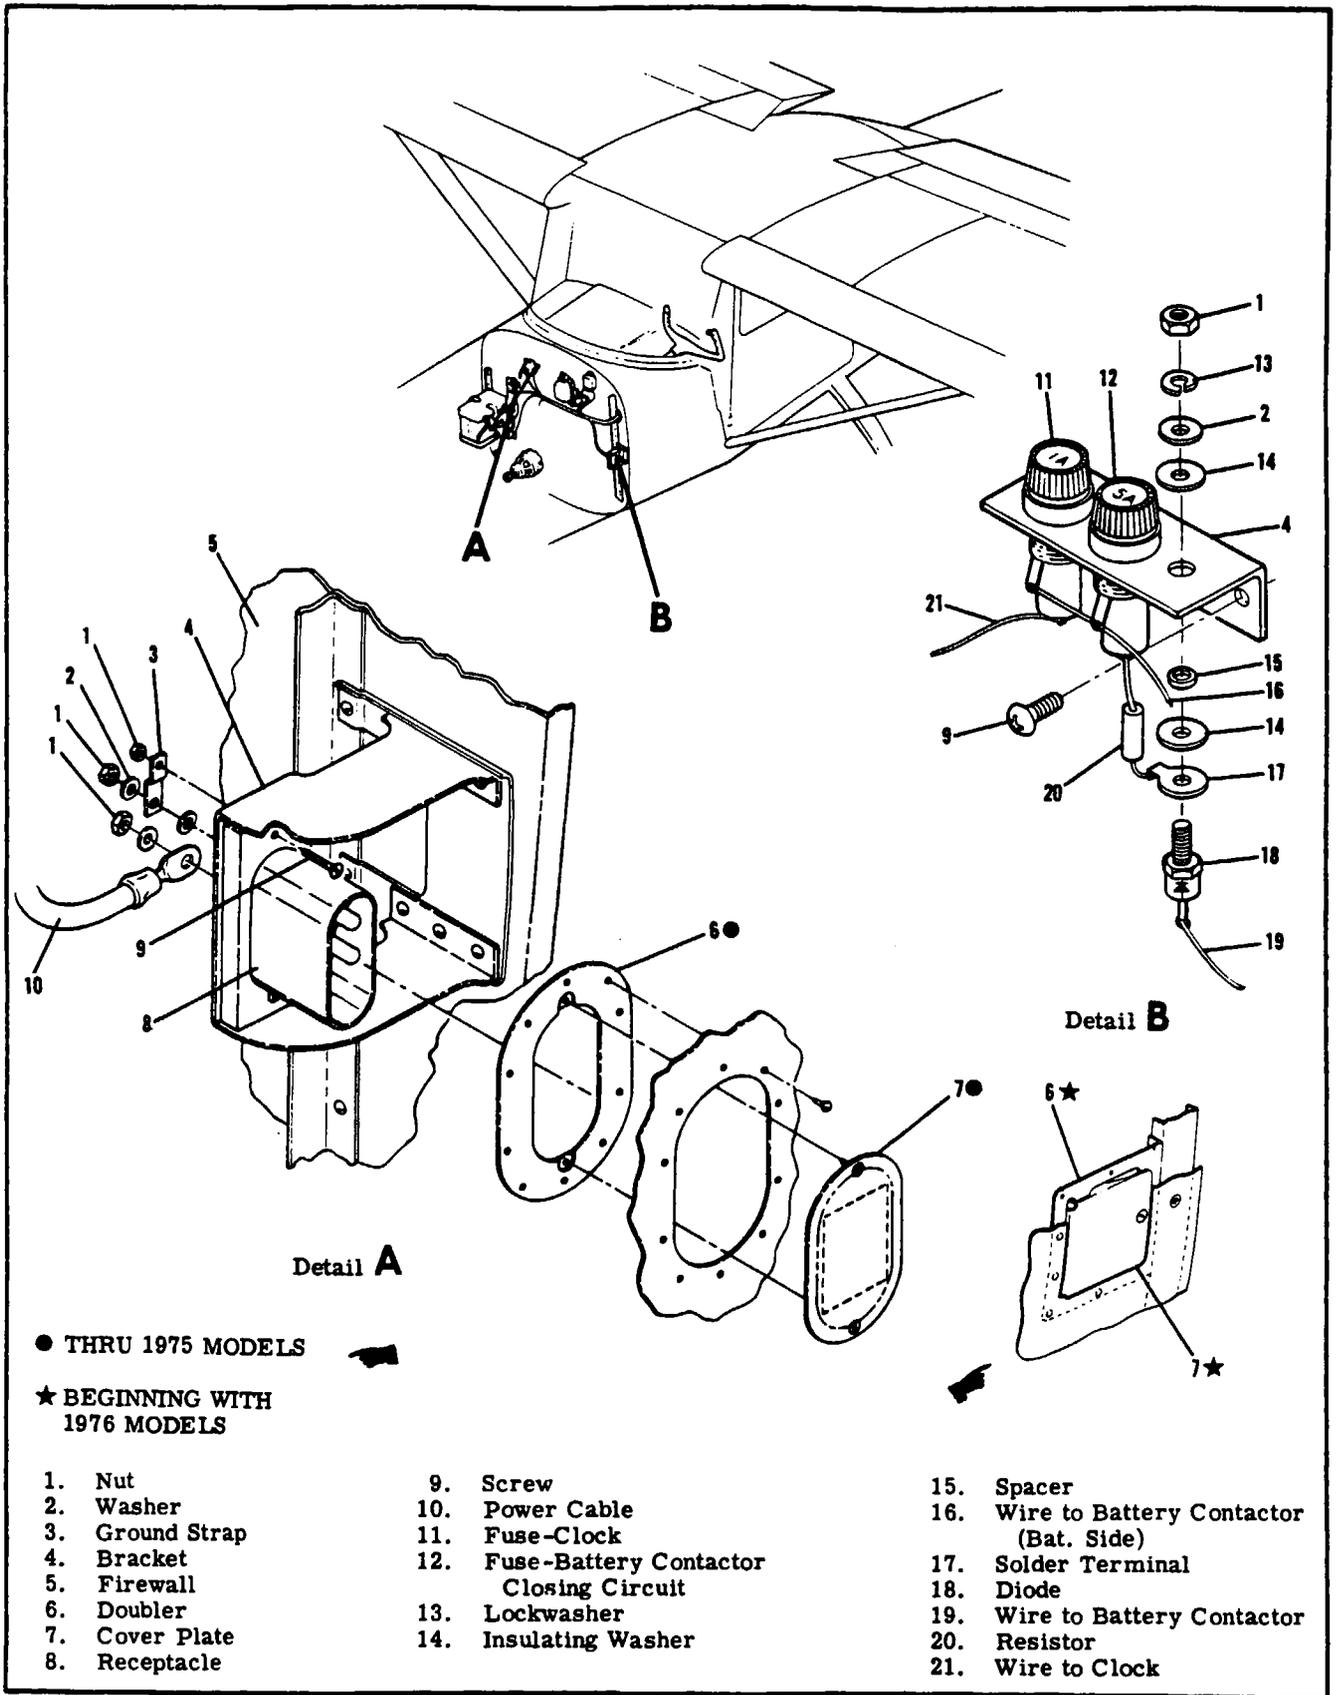

Figure 16-2. Ground Service Receptacle and Battery Contactor Closing Circuit Installations
**16-28. REMOVAL AND INSTALLATION** (Refer to figure 16-2).